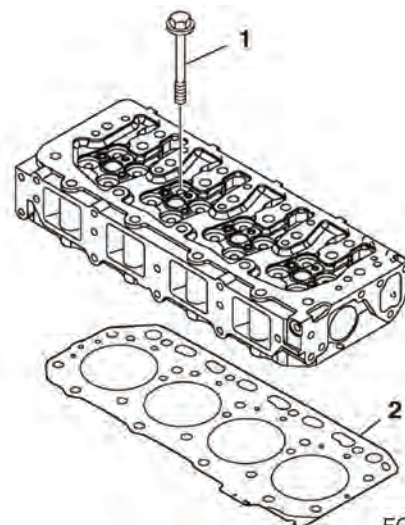
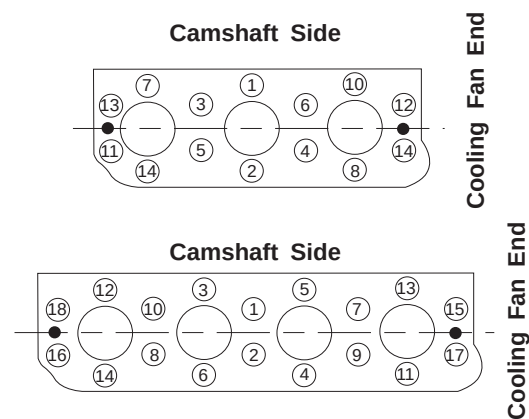

Figure 151
Figure 152
1. Carefully clean both the combustion surface of the cylinder head and the top surface of the cylinder block. Then place a new cylinder head gasket (2, Figure 151) on the cylinder block.
3. Lightly oil the threads of the cylinder head bolts (1, Figure 151). Tighten the bolts to the specified torque in two steps as shown in the chart below. Tighten in the sequence shown in (Figure 152). See "Special Torque Chart" on page -101. for specification.